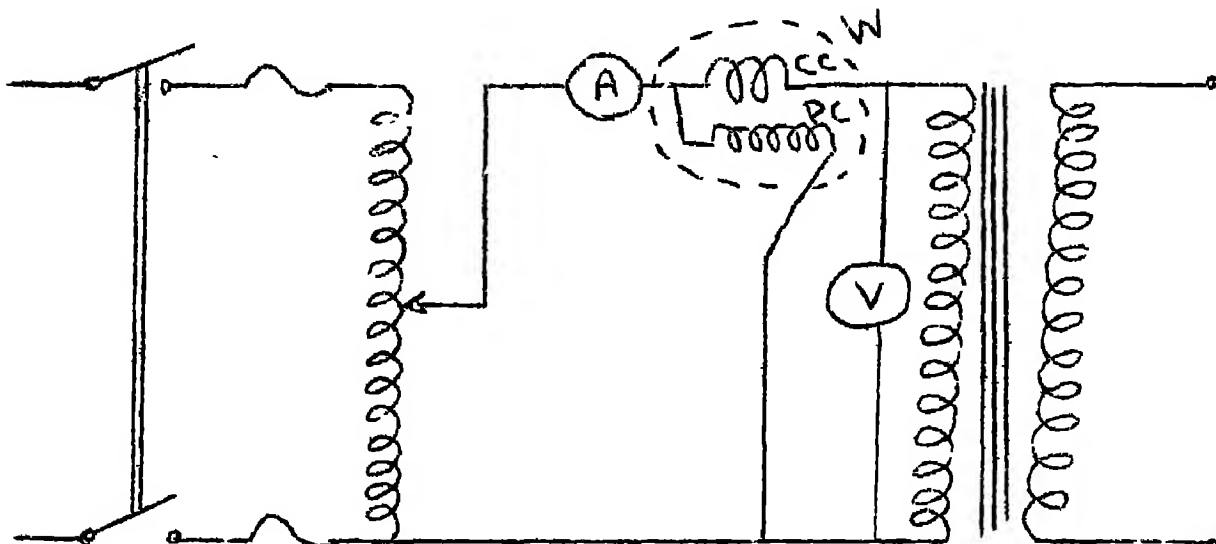

Fig.2 (Connection for S.C.test)
CORE TYPE: In this type the iron core surrounds the windings as shown in fig. 2(a) and 2(b).
Diagrams showing details of the core are given in fig.4,5 and 6. Fig.2(a) and 2(b) show the constructional details of core type transformer and fig.3(a), and 3(b) give the details of shell type transformer.
12. Assemble the core with winding as shown in fig.2 & 3.
- i) Connect as shown in fig. 2